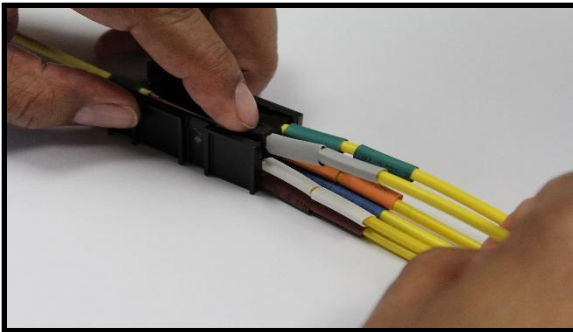

Figure 10
7.4 Repeat steps 7.2 & 7.3 until you have installed all Six (6) of the Breakout Assembly Units. **See Figure 10**